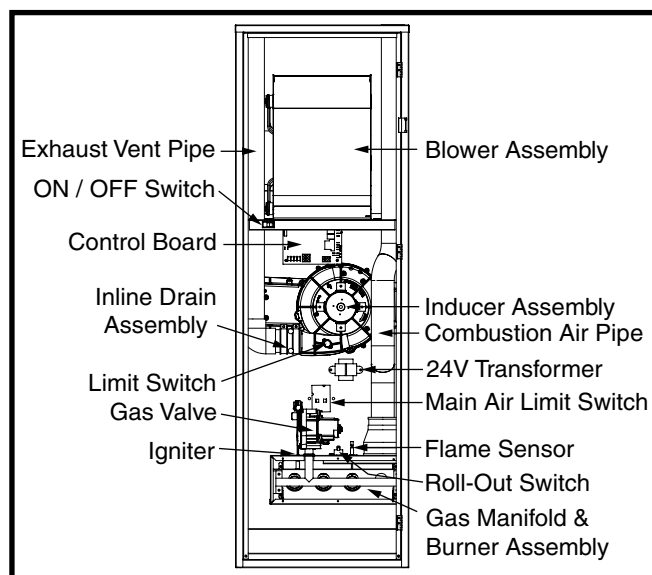

Figure 17. Furnace Components
If the burners must be cleaned, follow steps 1-12. See Figure 17 (page 27) for component location.
- If the inducer blower is operating, and items above have been verified, check the blower limit switch and reset if necessary. See Figure 17 for component location.
- If the furnace still doesn't operate, check the flame roll-out switch (Figure 17) and reset if necessary.
The descriptions below are various functional components that affect the operation and shutting down of this furnace. Some of these components and their locations are shown in Figure 17. If any component of the furnace must be replaced, use only factory authorized replacement parts specified in the Replacement Parts List provided online.